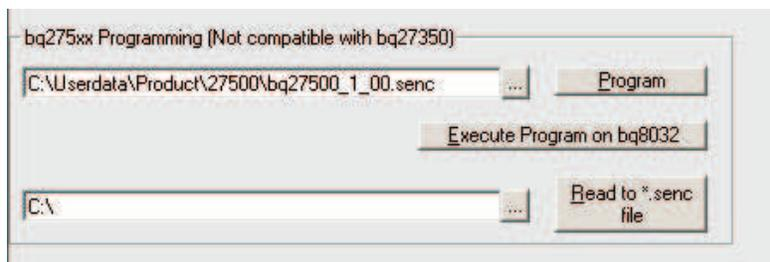

Figure 7. Programming the Firmware (Encrypted SREC)
6. In the *bq275xx Programming* section, enter the path and file name for the new firmware file (*.senc). If needed, click the (...) button to browse for the file location (see Figure 7).
7. Click the **Program** button to program the firmware (see Figure 7). All flash-constants information including calibration will be lost; so, export it beforehand into a (*.gg) file or *.DFI file
8. Once programming is finished, execute the program by clicking **Execute Program on bq8032** button (see Figure 7).